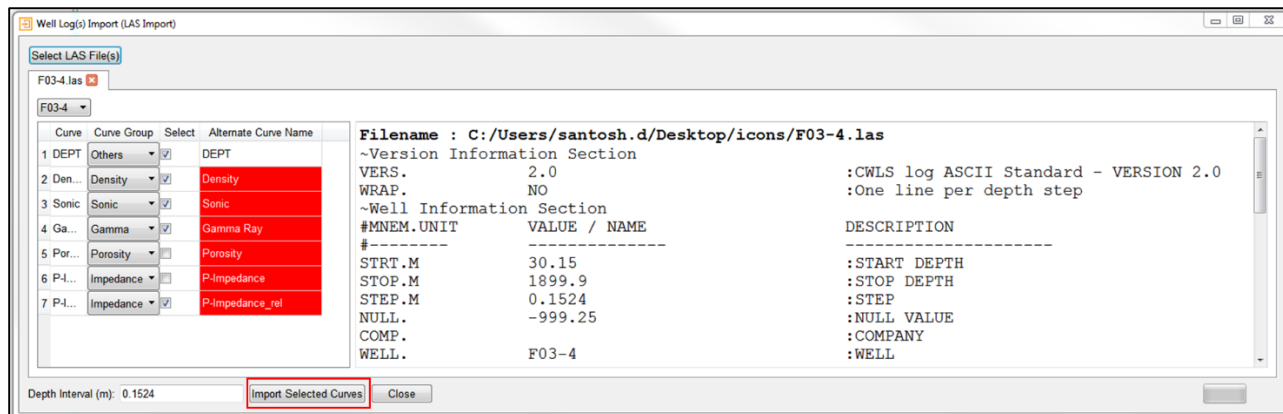

Figure 3.2: Log Curve Selection and Import Window.
Step 2: After selecting the LAS file, the input file will be shown in text browser for reference and logs present in the file will be displayed in the Left side of the window (Figure 3.2). User can select the types of logs for display. Logs present in LAS file with standard mnemonics will be automatically selected in this window. The detail headers of the Las file will display in the Well Log (s) Import (LAS Import) window.